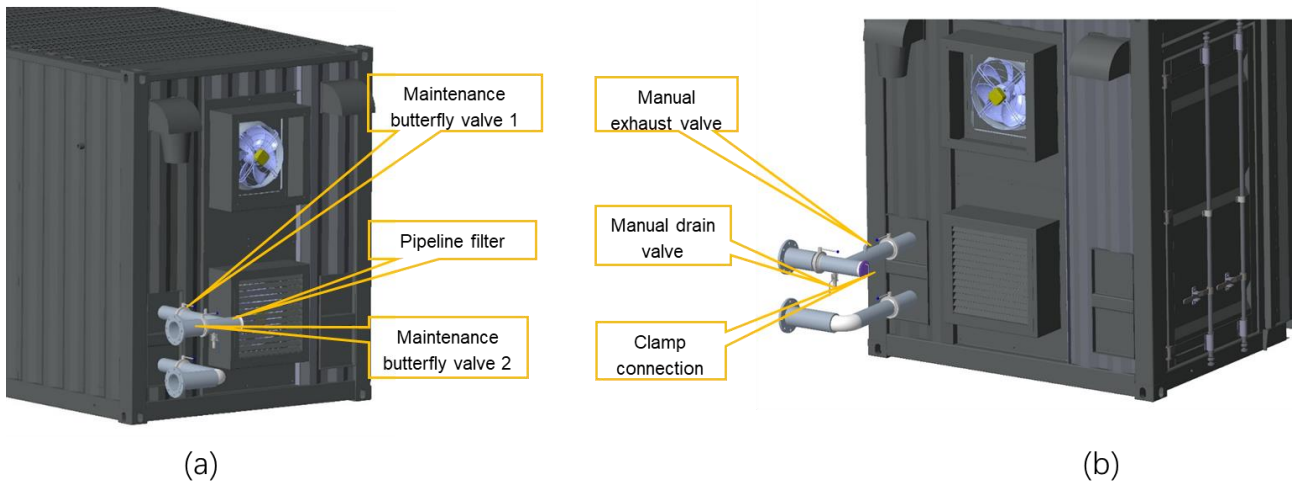

Figure 9-1 Location of butterfly valves and pipeline filters for pipeline maintenance
- b) Referring to Figure 9-1, close the maintenance butterfly valves in the system, open the drain ball valve below the pipeline filter component, and drain the local Water in the pipeline.